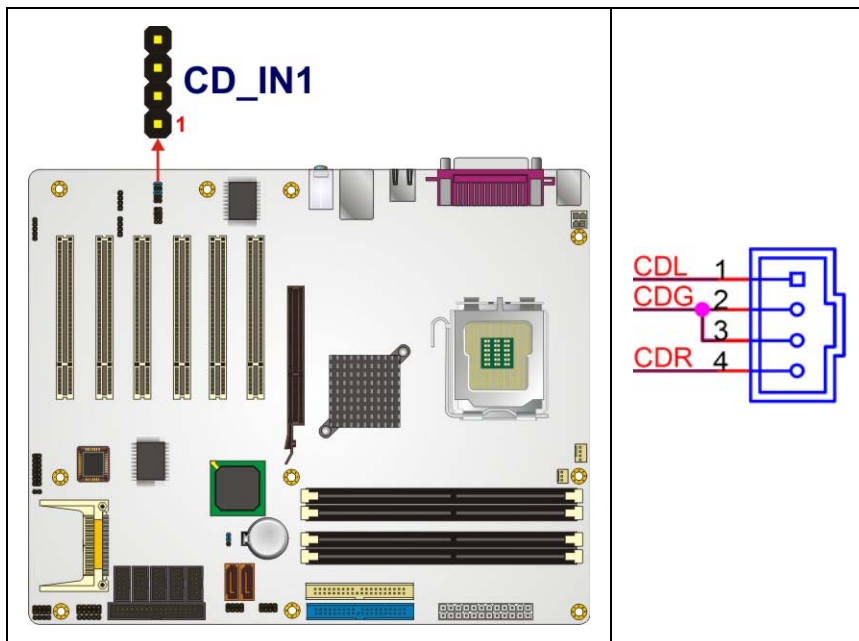

Figure 4-7: CD-In Connector
- CN Location:** See **Figure 4-7**